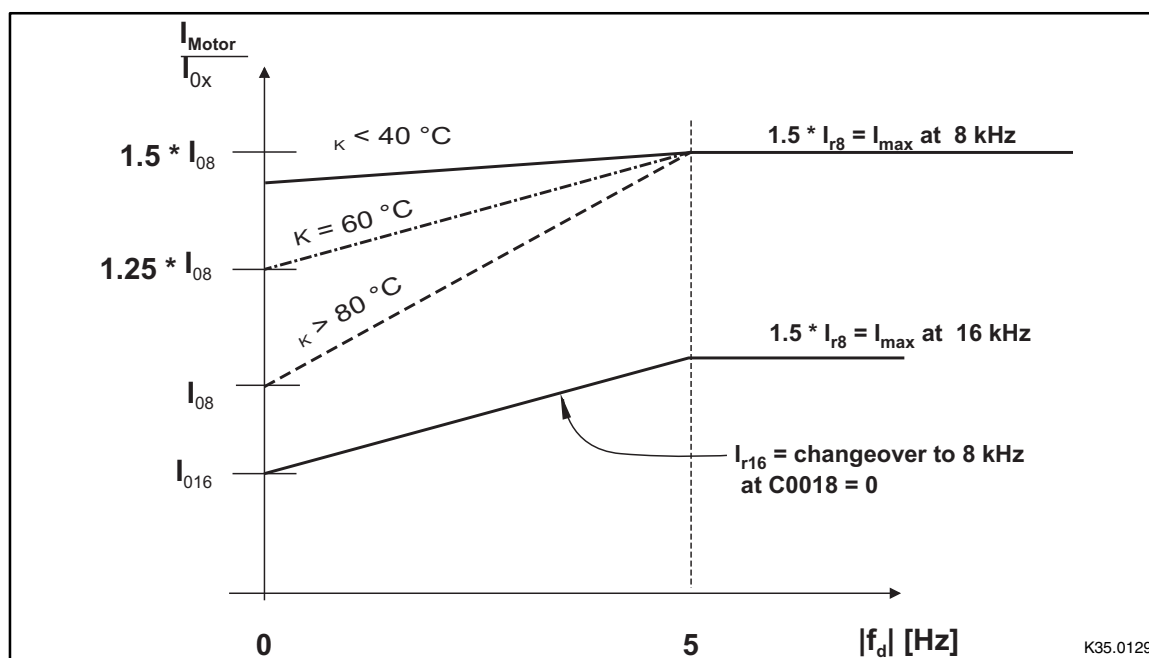

Fig. 6-2 Current derating function of the controllers 9326 to 9332.
- The current derating depends on the heatsink temperature (see Fig. 6-2).
- Below the threshold, the controller operates with 16 kHz (noise-optimised). The function of the current derating follows the characteristic "Imax 16 kHz" (see Fig. 6-2).
- If a higher torque is required from the machine for example for acceleration, the controller automatically switches to 8 kHz (power-optimised). The function of the current derating follows the characteristic "Imax 8 kHz" (see Fig. 6-2).